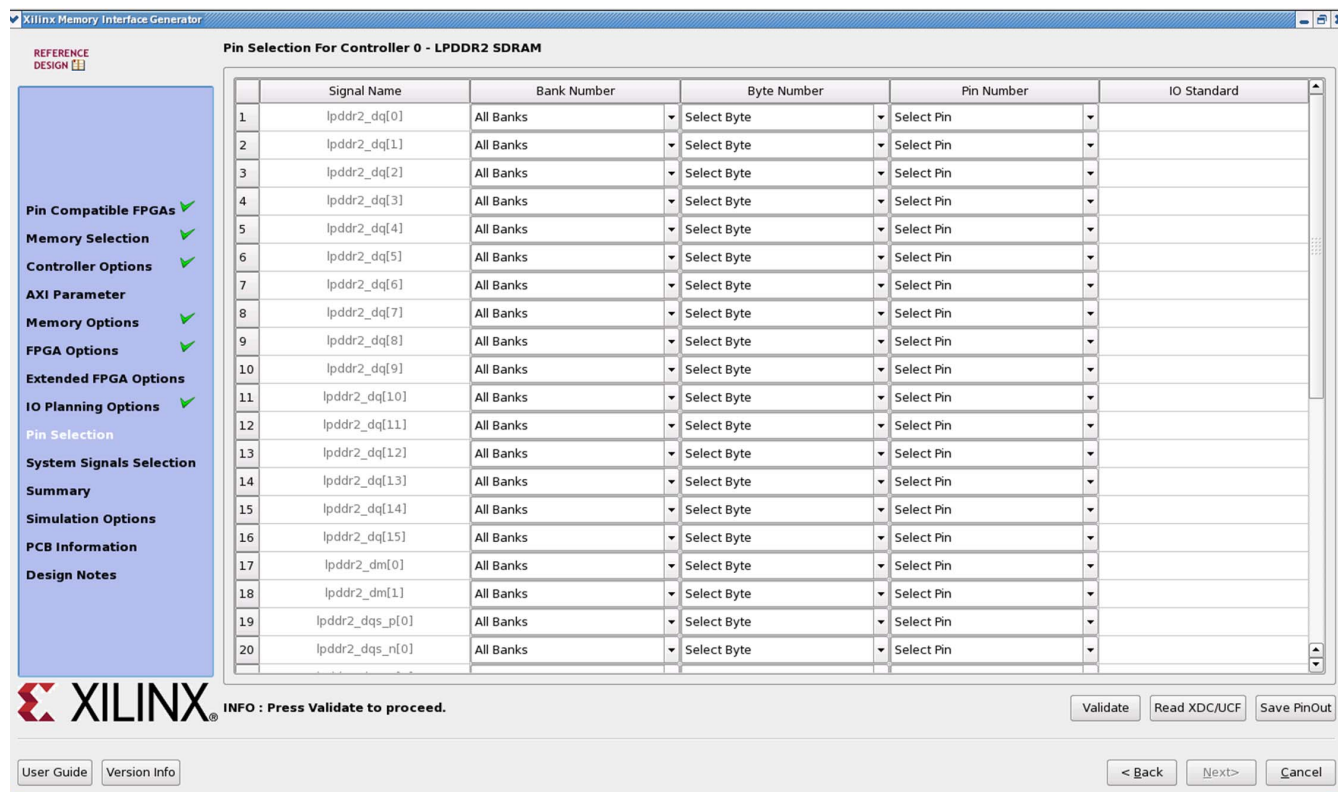

Figure 4-22: Pin/Bank Selection Mode
- **Pin/Bank Selection Mode** – This allows you to specify an existing pinout and generate the RTL for this pinout, or pick banks for a new design. Figure 4-22 shows the options for using an existing pinout. You must assign the appropriate pins for each signal. A choice of each bank is available to narrow down the list of pins. It is not mandatory to select the banks prior to selection of the pins. Click **Validate** to check against the MIG pinout rules. You cannot proceed until the MIG DRC has been validated by clicking **Validate**.